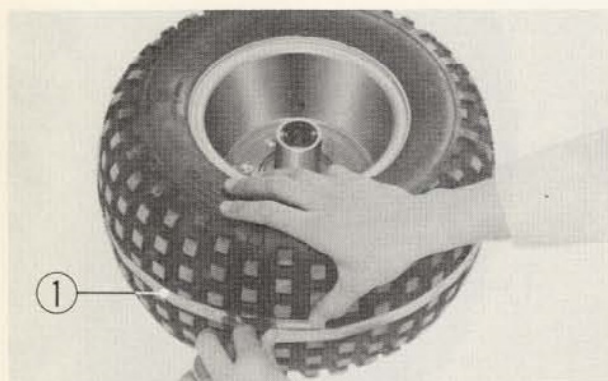

Fig. 4-9
5. Check the tire pressure using a commercial tire pressure gauge. Correct tire pressure is 0.2 kg/cm^2 (2.8 psi). If such a gauge is not immediately available, using a linen or steel tape, measure the length around the circumference and in the center of the tire. It should read 1,290–1,320 mm (50 to 52 in.). See Fig. 4-9.